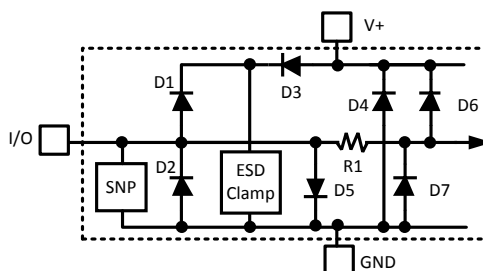

Figure 1. ESD Protection Input Structure
- (1) Absolute Maximum Ratings indicate limits beyond which damage to the device may occur. DC and AC electrical specifications do not apply when operating the device beyond its rated operating conditions.
- (2) Stresses beyond those listed under absolute maximum ratings may cause permanent damage to the device. These are stress ratings only, and functional operation of the device at these or any other conditions beyond those indicated under recommended operating conditions is not implied. Exposure to absolute-maximum-rated conditions for extended periods may affect device reliability.
- (3) When the input voltage (V_I) at any pin exceeds the power supplies (V_I < GND or V_I > V_{DD}), the current at that pin should be limited to 5 mA. Parasitic components and/or ESD protection circuitry are shown in Table 1 and Figure 1 for the LM89's pins. The nominal breakdown voltage of D3 is 6.5 V. Care should be taken not to forward bias the parasitic diode, D1, present on pins: D+, D-. Forward biasing the parasitic diode by more than 50 mV may corrupt a temperature measurement.
- (4) Visit www.ti.com/packaging for other recommendations and methods of soldering surface mount devices.